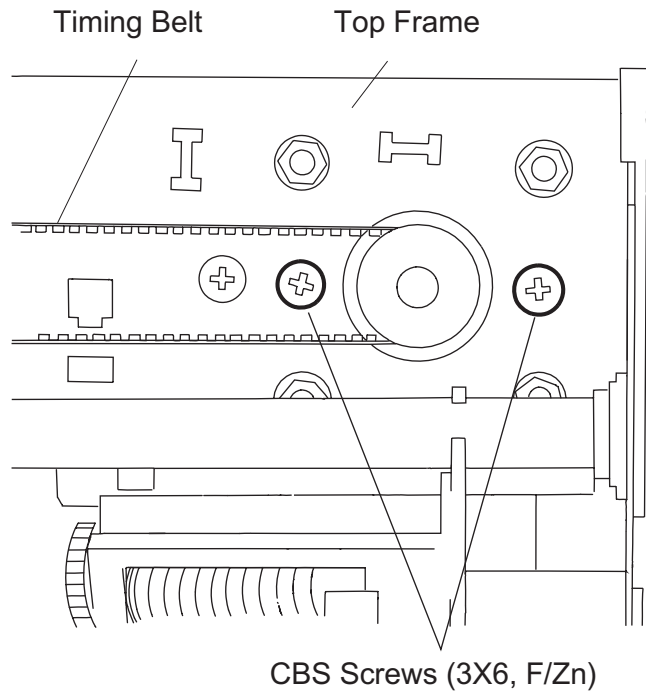

Figure 3-19. Screws Securing the CR Motor Assembly
3. Remove 2 screws (CBS, 3x6, F/Zn) securing the CR motor assembly to the top frame. (See Figure 3-19.)